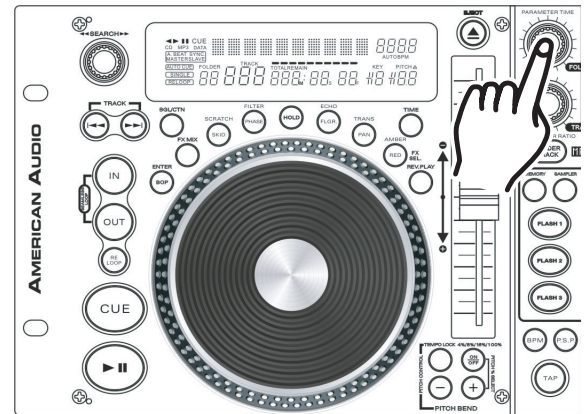

Figure 56
All the effects have adjustable parameters. The parameters change the way the effect will react. To enter the parameters menus for any of the effects, press or turn either of the two *PARAMETER KNOBS (13 OR 14)* as in figure 56. When the parameter mode is selected the time display in the *VFD (17)* will change to indicate the parameter you are adjusting. All effects except the pan effect have two adjustable parameters. *PARAMETER TIME (13)* and *PARAMETER RATIO (14)*. Use these knobs to customize the effects to your liking.